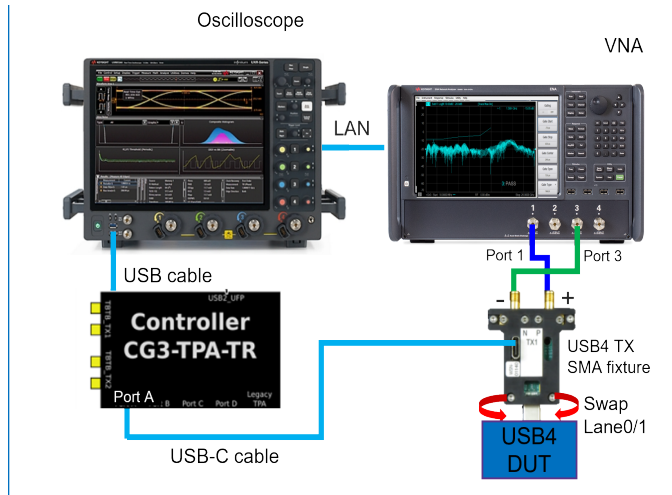

Figure 73 Tx Return loss test setup with Tx SMA test fixture
- 1 For the physical connections between the DUT & the Oscilloscope, see the connection diagrams in Figure 73 and Figure 74.